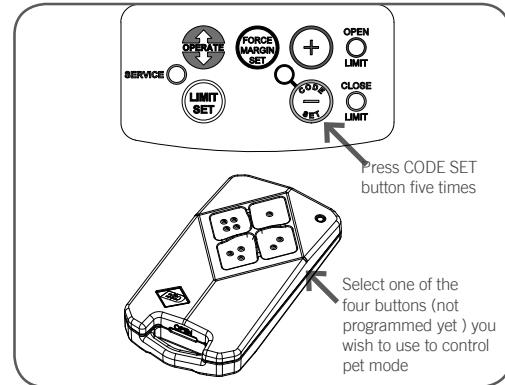

Fig.17
- Press the CODE SET button five times, the CODE SET LED will illuminate and the courtesy light will flash quickly (twice per second) to indicate learning mode for Pet Mode is active (**Fig. 17**).